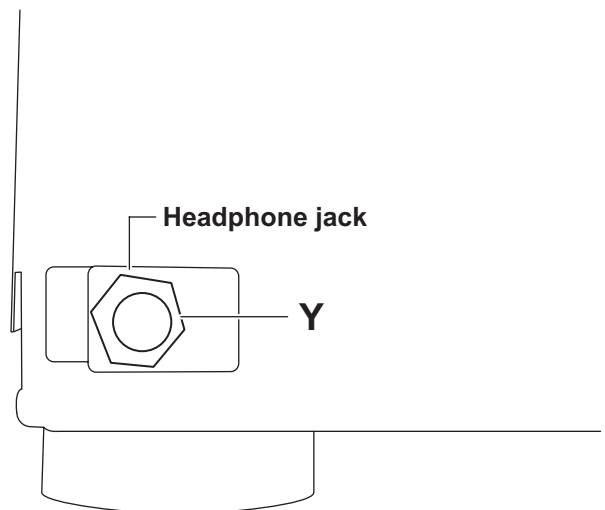

Fig.13
3.1.7 Removing the headphone board (See Fig. 13)